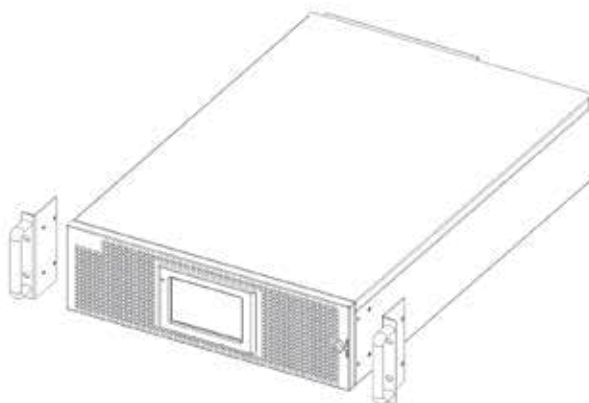

Fig.3-4 Installing brackets
1. Fix the brackets onto the UPS with the screws, as shown in Fig.3-4.